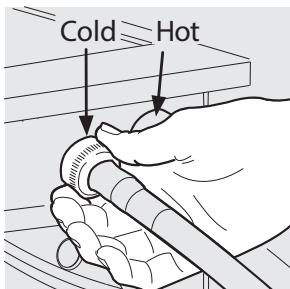

Fig. 3
- Connect the HOT inlet hose (color: red) to the HOT inlet connection on the washer and the COLD inlet hose (color: blue) to the COLD inlet connection (color: blue) on the washer. (Fig. 3).